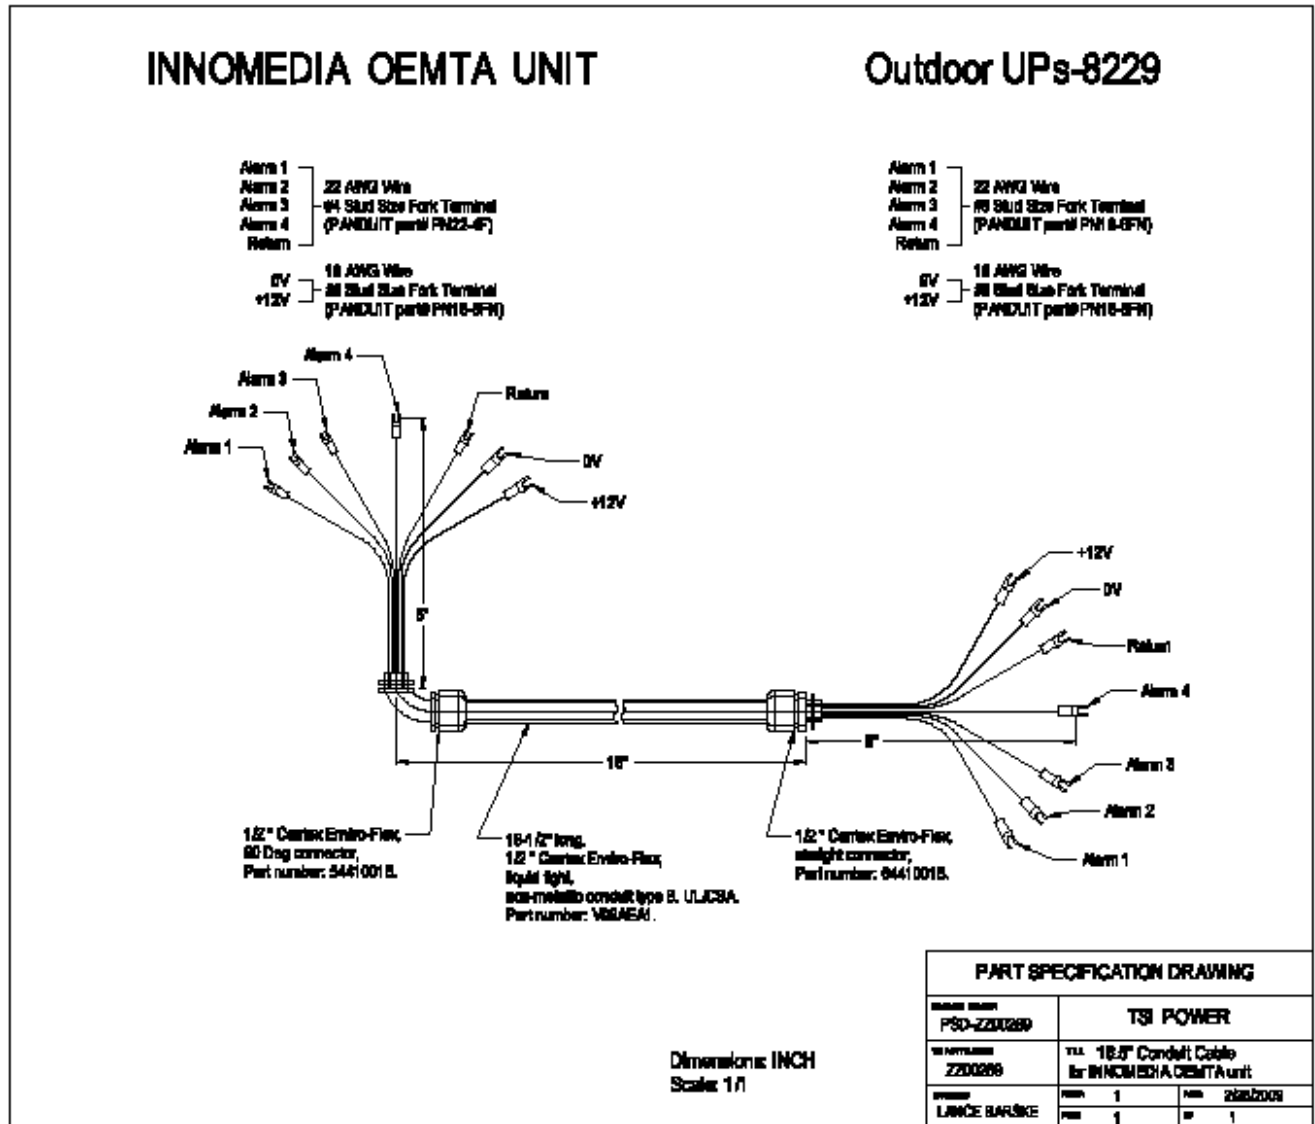

Figure 6: PSD-ZZ00289 Innomedia Cable Assembly
- 4.16** Use 18” conduit cable assembly for Innomedia installations. TSi drawing number: PSD-ZZ00289. *See Figure 6.